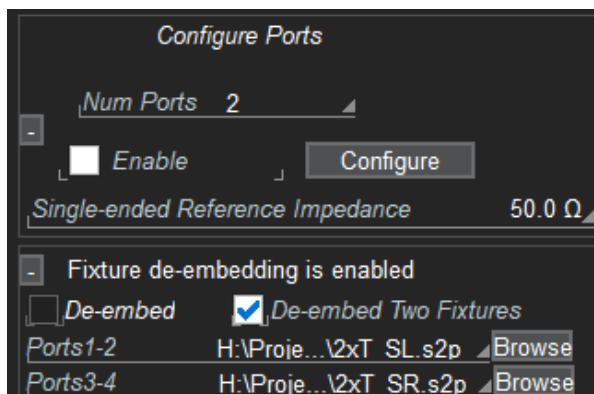

Figure 6: De-embedding setup on Main Setup dialog
**Left Fixture** and **Right Fixture (4)** allow you to set the paths to the resulting SLeft and SRight S-parameter files. When you click **Split Fixture (5)**, the software takes the selected input and creates the two files. Once you split the fixture, the **Apply to De-embedding Setup (6)** button is ungrayed. When you click it, the de-embedding section of the WavePulser Main Setup dialog is modified to reflect that two-fixture de-embedding is enabled with the specified files (Figure 6). The next DUT+Fixture measurement will be calculated using the new de-embedding setup.